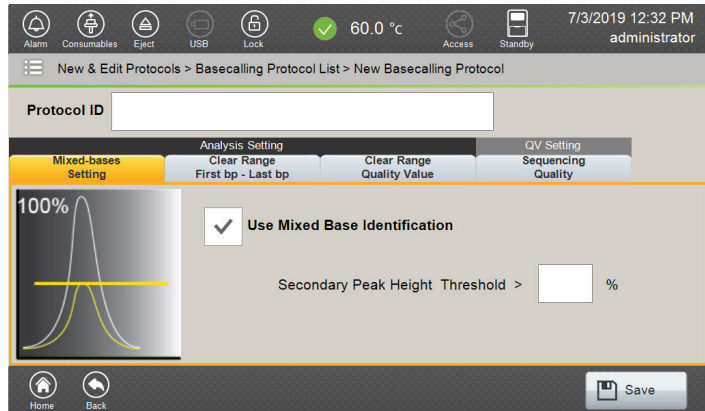

Figure 121. ‘New Basecalling Protocol’ screen.
2. Select **Create** in the footer to open the 'New Basecalling Protocol' screen (Figure 121). There are four tabs on the 'New Basecalling Protocol' screen.
Mixed Bases Setting	<p>Checking the "Use Mixed Base Identification" box enables this function (Figure 121). If there are two peaks at the same position and the smaller intensity peak is greater than the Secondary Peak Height Threshold (height as a percentage of the major peak at the same position) set in the basecalling protocol, then the software will identify this peak as a mixed base.</p> <p>Minimum and maximum values allowed for the Secondary Peak Height Threshold are 1% and 99%, respectively.</p>
3. Enter a Protocol ID, and then check the “Use Mixed Base Identification” box on the ‘Mixed-Bases Setting’ tab, if desired, followed by the Secondary Peak Height Threshold value (Figure 121).